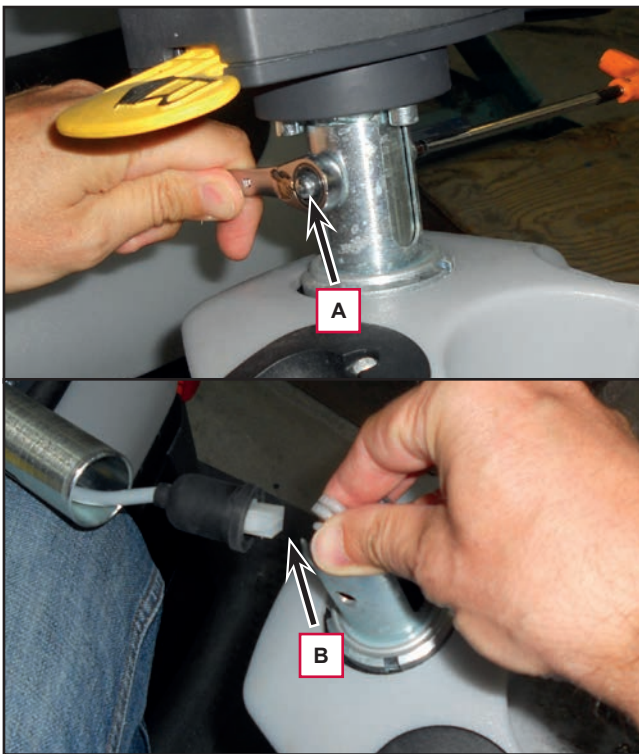
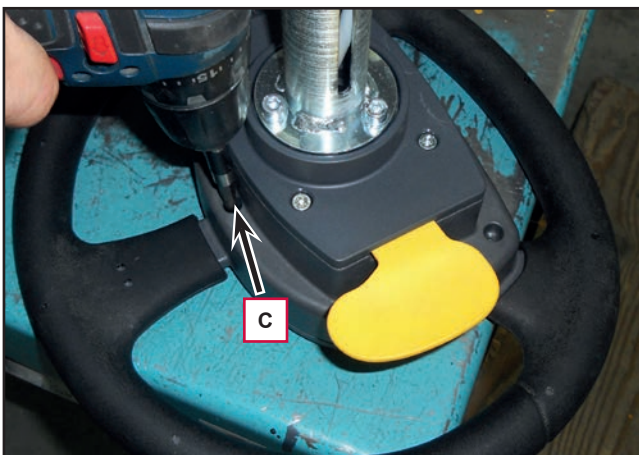

Figure 15
Figure 16
3. Remove the steering wheel mounting screws (A, Figure 15).
4. Lift the steering wheel group and disconnect the wiring harness connection (B).
5. At the workbench, remove the 6 screws (C, Figure 16).